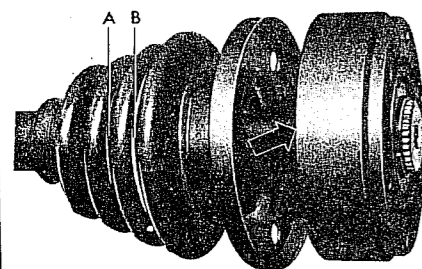

Fig. F.17. The larger diameter of the C/V joint must face the rubber joint cap.
3. Place the joint cap in position and then press on the constant velocity joint, making sure that its larger diameter is towards the drive shaft (Fig. F 17). Fit the dished washer and fit a new circlip.